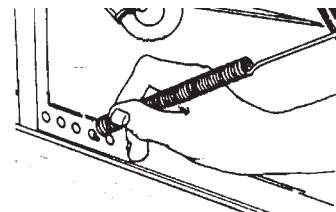

Fig. 1-21
2. Disconnect the end of the door springs from the door spring tension adjustment holes in the frame runner. Note which holes were used and reattach the door springs in the same holes when the repairs are complete. (Fig. 1-21)